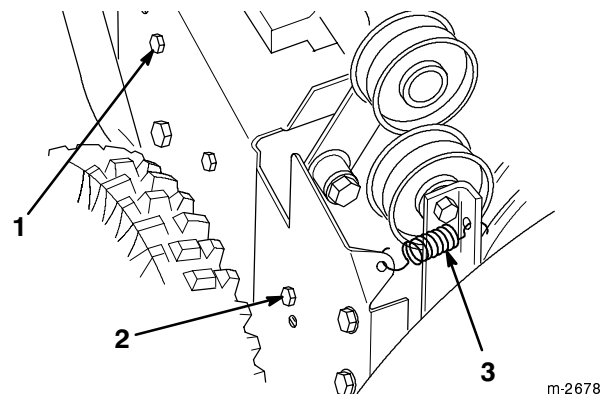

Figure 26
3. Loosen the auger brake arm assembly by loosening the rear screw and removing the front screw (Fig. 26).
4. Remove the idler pulley spring (Fig. 26). Let the brake arm assembly hang free but out of the way.
3. Loosen the auger brake arm assembly by loosening the rear screw and removing the front screw that fasten the auger brake arm assembly to the frame (Fig. 26).
4. Remove the idler pulley spring (Fig. 26). Let the brake arm assembly to hang free but out of the way.